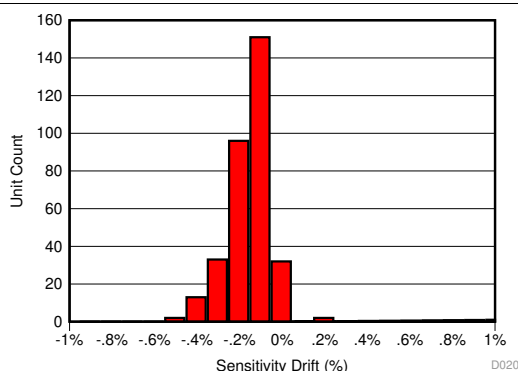
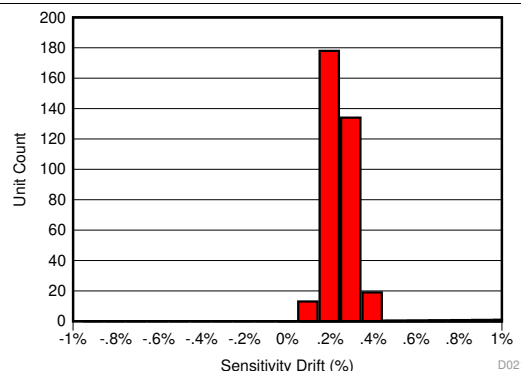
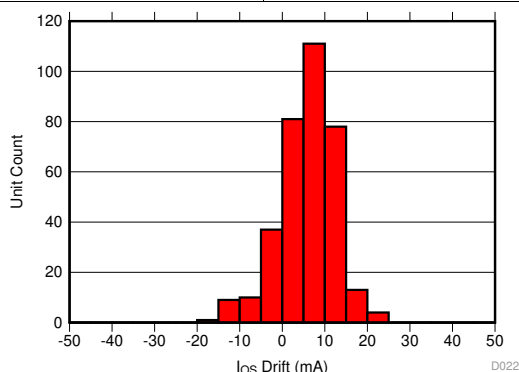

Figure 38. Sensitivity Error after 135°C, 85% RH HAST
Figure 39. Sensitivity Error Drift after AEC-Q100 High Temperature Operating Life Stress Test
Figure 40. Input-Referred Offset Drift after AEC-Q100 High Temperature Operating Life Stress Test
The same compensation techniques utilized in the TMCS1100 to reduce temperature drift also greatly reduce lifetime drift due to aging, stress, and environmental conditions. Typical magnetic sensors suffer from up to 2% to 3% of sensitivity drift due to aging at high operating temperatures. The TMCS1100 has greatly improved lifetime drift, as defined in the Electrical Characteristics for total sensitivity error measured after the worst case stress test during a three lot AEC-Q100 qualification. All other stress tests prescribed by an AEC-Q100 qualification caused lower than the specified sensitivity error, and were within the bounds specified within the Electrical Characteristics table. Figure 38 shows the total sensitivity error after the worst case stress test, a Highly Accelerated Stress Test (HAST) at 130°C and 85% relative humidity (RH), while Figure 39 and Figure 40 show the sensitivity and offset error drift after a 1000 hour, 125°C high temperature operating life stress test as specified by AEC-Q100. This test mimics typical device lifetime operation, and shows the likely device performance variation due to aging is vastly improved compared to typical magnetic sensors.